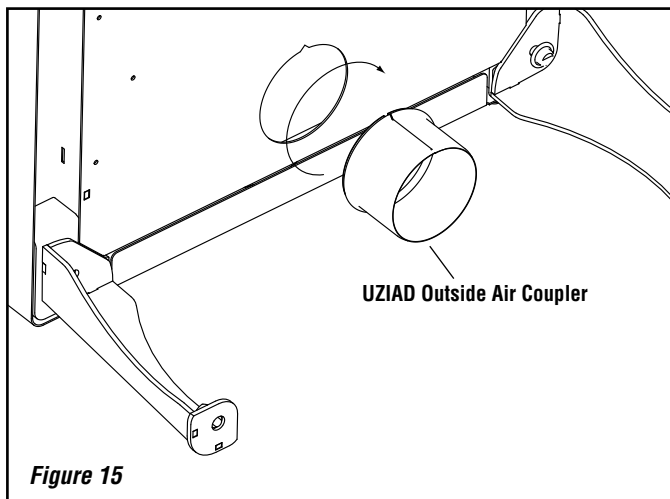

Figure 15
### Through the Wall Outside Air Kit Installation (refer to Figures 15, 16 and 17)
- Install the coupler onto the existing collar on stove (see **Figure 15**).